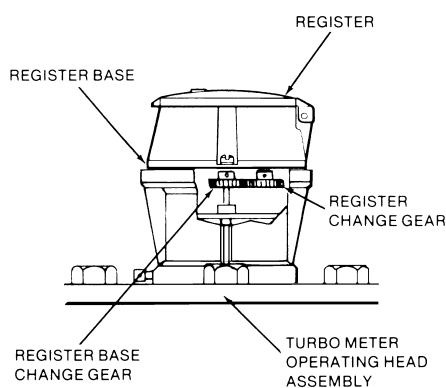

Figure 2: Change gear location, register base and register assembly
5. Install the corrected change gears, taking care to assemble the correct change gears to the appropriate spindles (see Figure 2). For registers, see "Servicing" on page 10 for instructions on the proper method of installing and meshing change gears. On meters with 76 Series registers, provision for change gear adjustment is built in. See the applicable register's user manual for recalibrating instructions.
- a. Place the bottom of the register on the top edge of the gage. See Figure 2 on page 7.